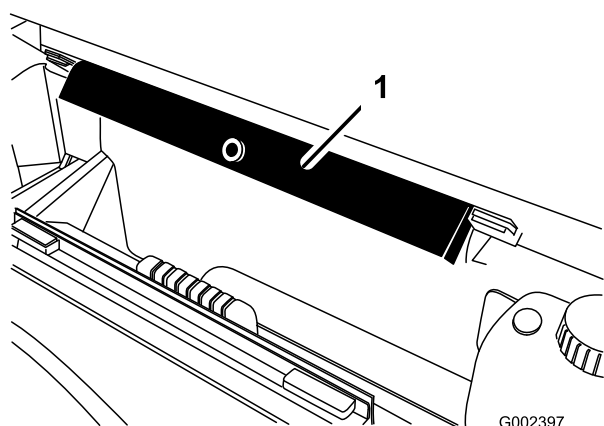

Figure 1
- B. Remove the bed support from the storage brackets on back of the ROPS panel (Figure 1).
2. Insert the bed support into the brackets on the back of the ROPS panel (Figure 1); refer to Preparing to Install the Kit.